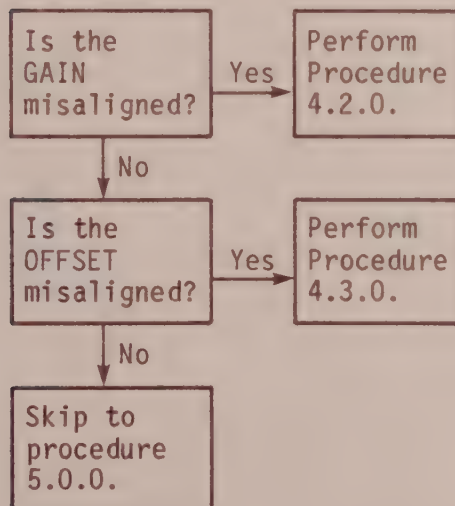
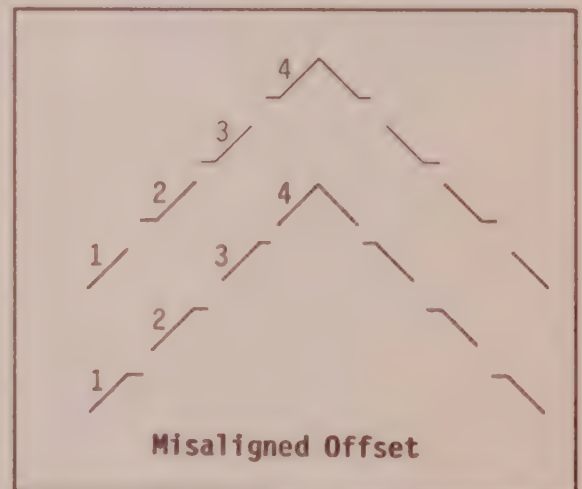

Figure 4-1
Figure 4-2
- 4.1.9. Slowly adjust the DC Level control fully clockwise while observing for Gain (Figure 4-1) or Offset (Figure 4-2) separations.